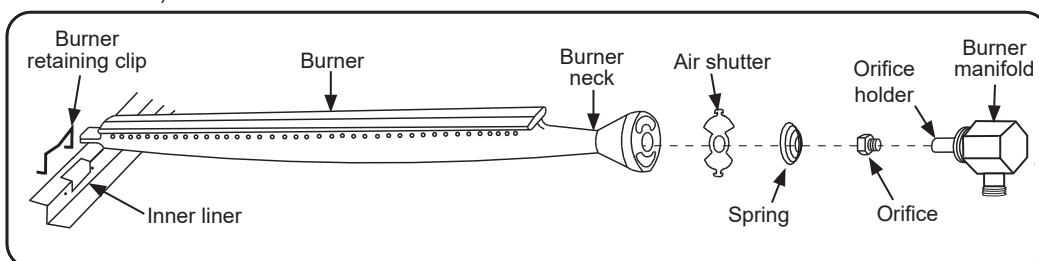

Fig. 35-4 Burner components diagram
3. Locate and remove the burner retaining clip from the left end of the burner using a flat head screwdriver (see Fig. 35-4).
- a. Install the air shutter spring, then the air shutter over the orifice holder fitting in the order and position as shown in Fig. 35-4.